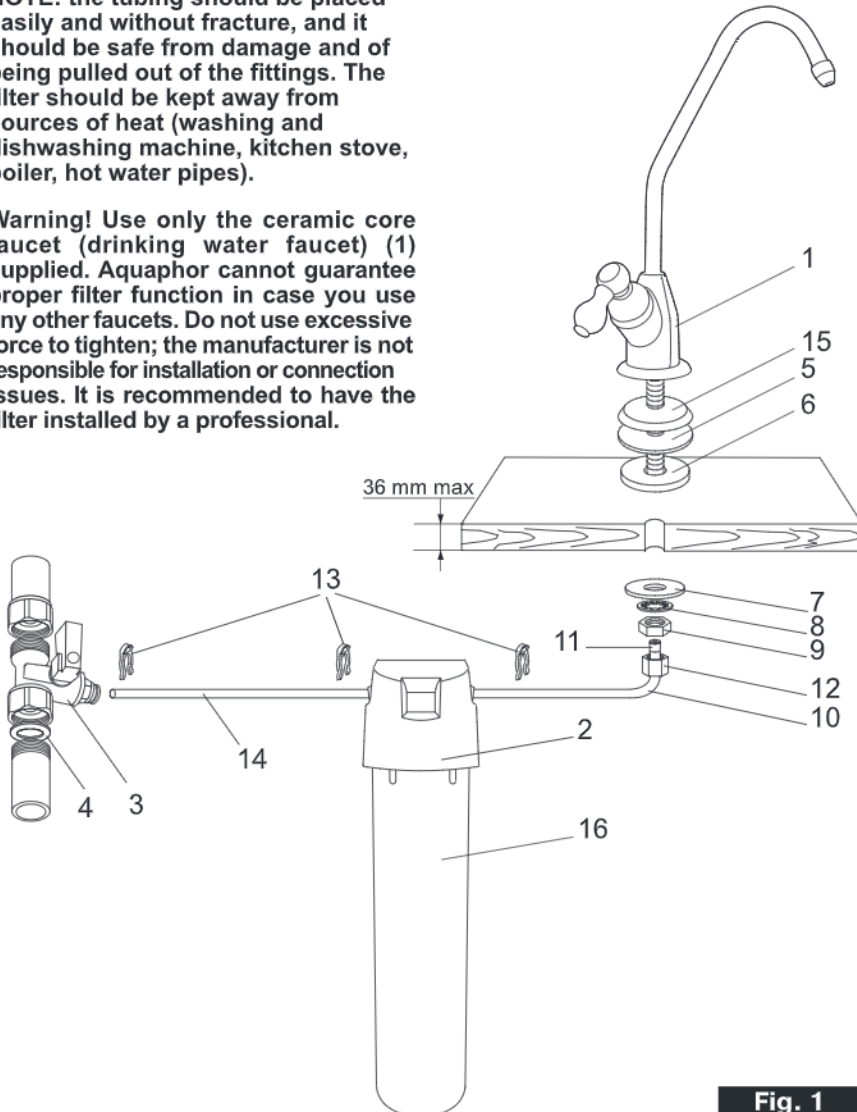

Fig. 1
Package contents (fig.1)
Find appropriate locations for the drinking water faucet (1), the filter itself (2) and shut off valve (3) (fig.1).
Connecting to the water supply line (fig. 1):